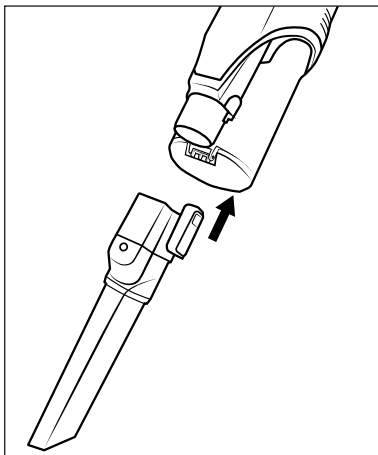

Fig. 14
- ♦ Push the accessory onto the suction pipe **24** or onto the suction opening of the appliance until it clicks into place (see Fig. 14). Make sure that the locking mechanism is in the correct position.